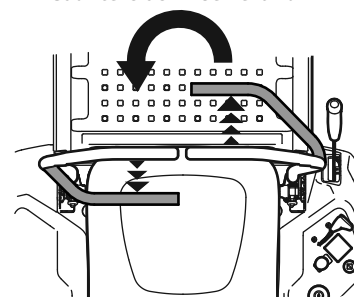

Figure 28
3. To turn counterclockwise, move the lapbar right drive control lever forward while simultaneously moving the left lapbar drive control lever rearward. See Figure 28.